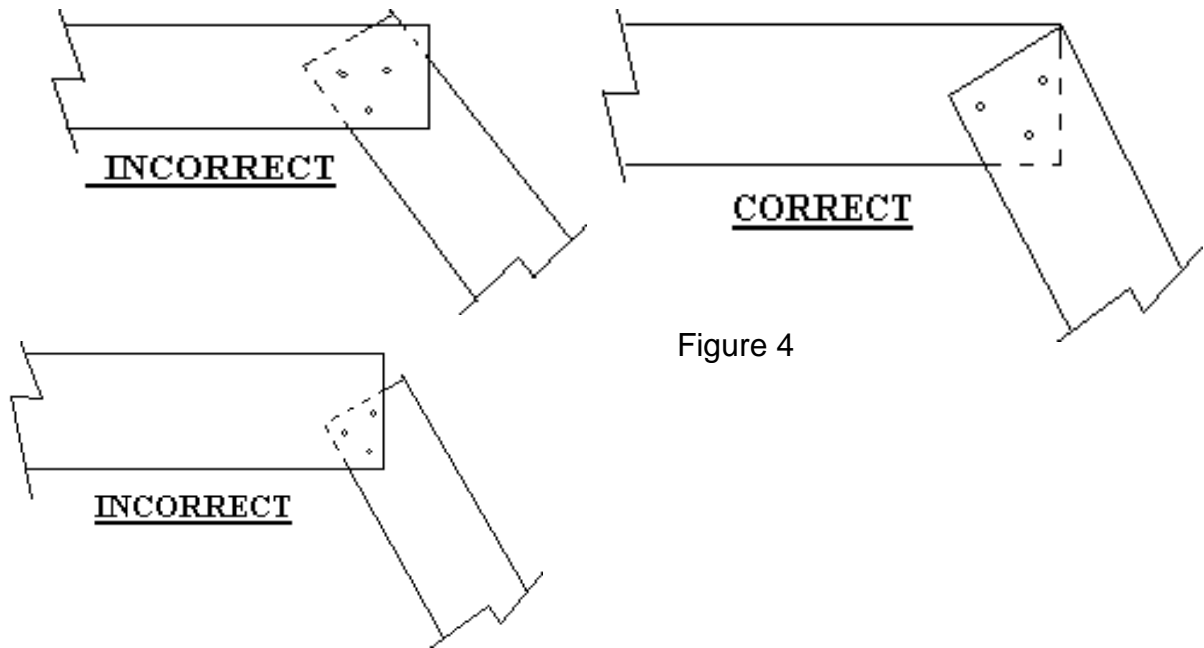

Figure 4
1. Lay cardboard at least 72" along each wall, making sure they meet in a well-defined angle (see *figure 4*).